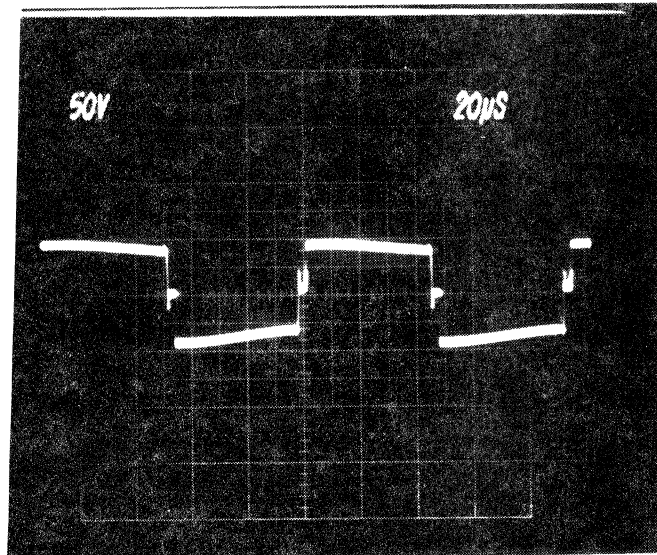

Fig. 13-6. Inverter Waveform - PHOT/PCAPS 1.
10. Check the base-emitter voltage waveform on the other Q2015/3015. It should be identical in shape to that of the first transistor but shifted 180 degrees in phase. If the waveform does not meet this description, check for failures as outlined under item 9.
14. Slowly rotate the Variac control until the output of the Variac is 20 or 30 Vrms. The waveform shown in Fig. 13-6 should now appear on the scope.